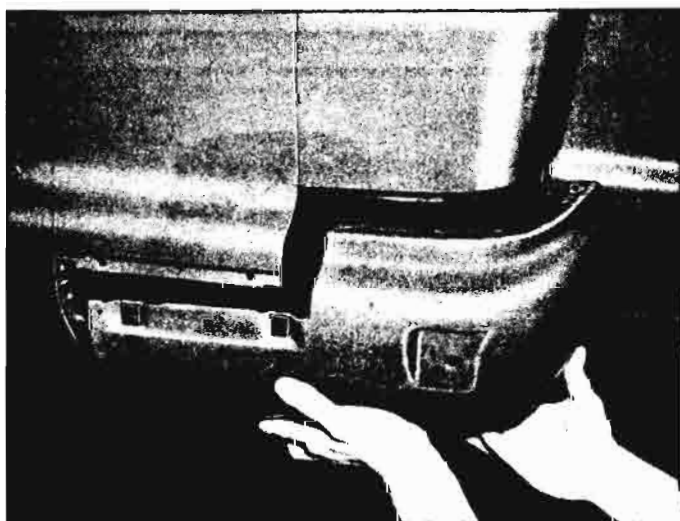

Fig. 10-35a—Installing Front Outer Panel Extension
1. Install required "J" nuts to outer extension panel (fig. 10-35a) and install to body opening.